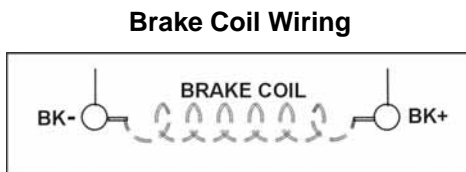

Figure 1-10
- The second circuit provides power to the brake coil Brake Wiring. [See Figure 1-10.]